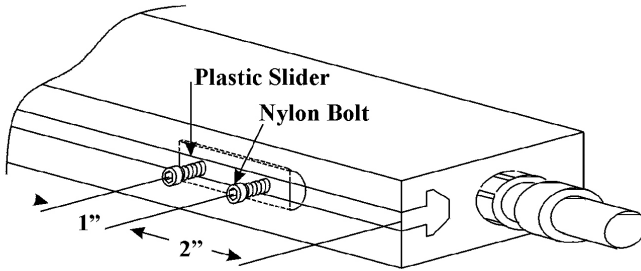

Figure 1. R50 Blue Bar Overview and Dimensional Drawing
Dimensions	5/8"W x 1 1/4"H x Overall Length (OL) (see Figure 1)